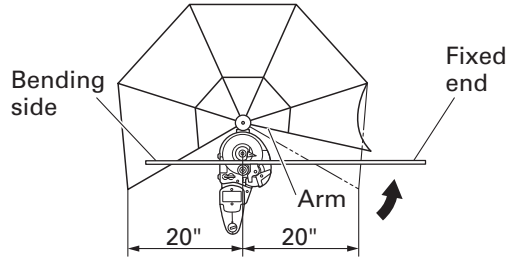

Fig. 21
- Install the deflection guard for operation with the bending length of a rebar 20" (inside dimension of the deflection guard) or less to protect the persons around the rebar cutter/bender in case rebar splinters into pieces and deflects during bending. (Fig. 21)
- (2) Be sure to install the deflection guard when bending a rebar whose bending length is 20" (inside dimension of deflection guard) or less and the fixed length is more than 20". In this case, move the arm at the fixed end. (Fig. 21)